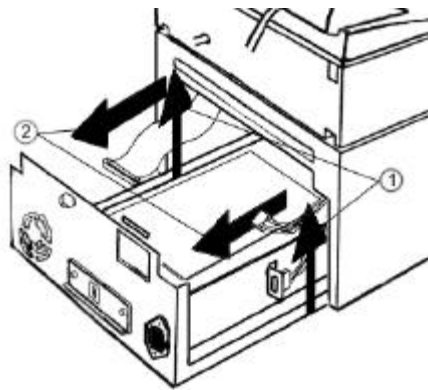

fig. 4.10
- 5) pull the sliding tray completely out applying the double movement shown in figure 4.10: grabbing the tray in the middle and rising it up a bit ① and then pulling out ②.